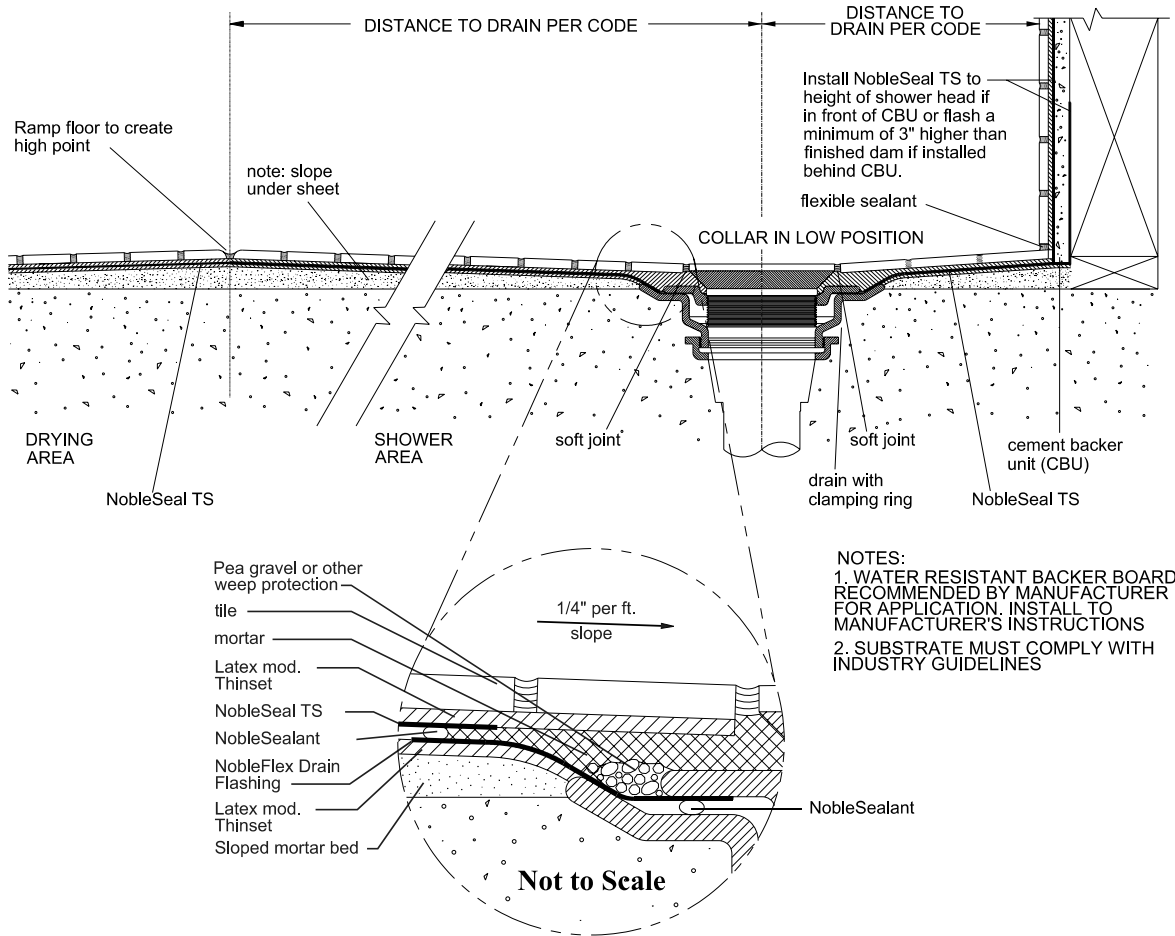

Figure 5. JOINT BRIDGING/CRACK ISOLATION
6.2 ISOLATING CRACKS AND CONTROL JOINTS: (See Figure 5) Refer to current NobleSeal CIS® Installation Instructions. For applications that do not require waterproofing, use NobleSeal CIS, or modify NobleSeal TS as follows: remove the 2" seaming area on each edge. Follow NobleSeal CIS Installation Instructions.